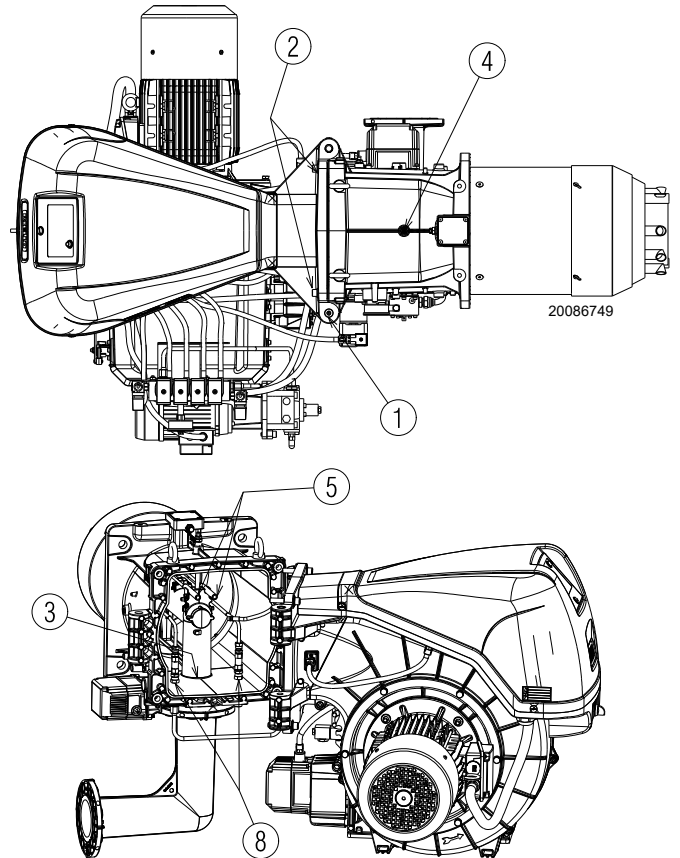

Fig. 16
The burner leaves the factory set for opening to the right, therefore maintaining the pin 1)(Fig. 16) in its housing.
- C** fully open the burner as in Fig. 16;
To open the burner from the opposite side, before removing the pin 1)(Fig. 16), make sure that the 4 screws 2) are tight. Then shift the pin 1) to the opposite side, only then is it possible to remove the screws 2). Disconnect the socket 9)(Fig. 16) of the maximum gas pressure switch, then proceed as described above at point C).